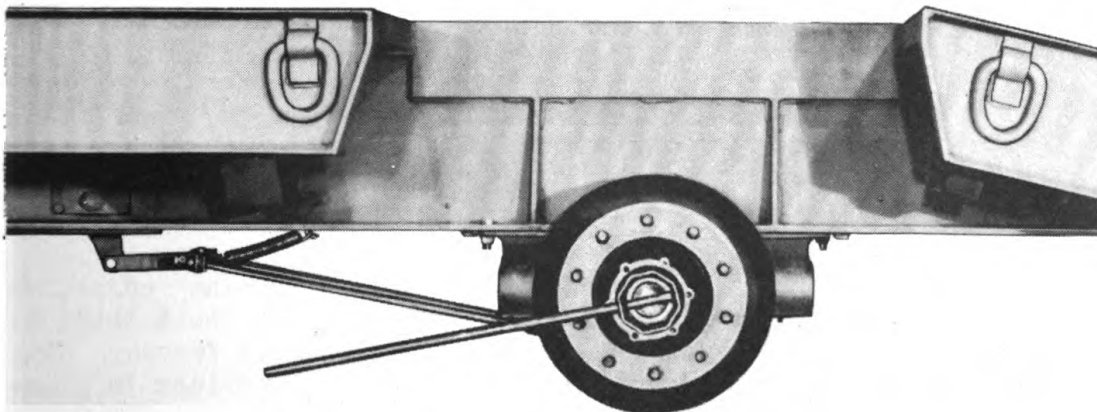

Figure 23—Removing Hub and Drum Assembly
2. Use the spindle nut wrench furnished with the trailer to loosen and remove the outer spindle nut. (See figure 23.)